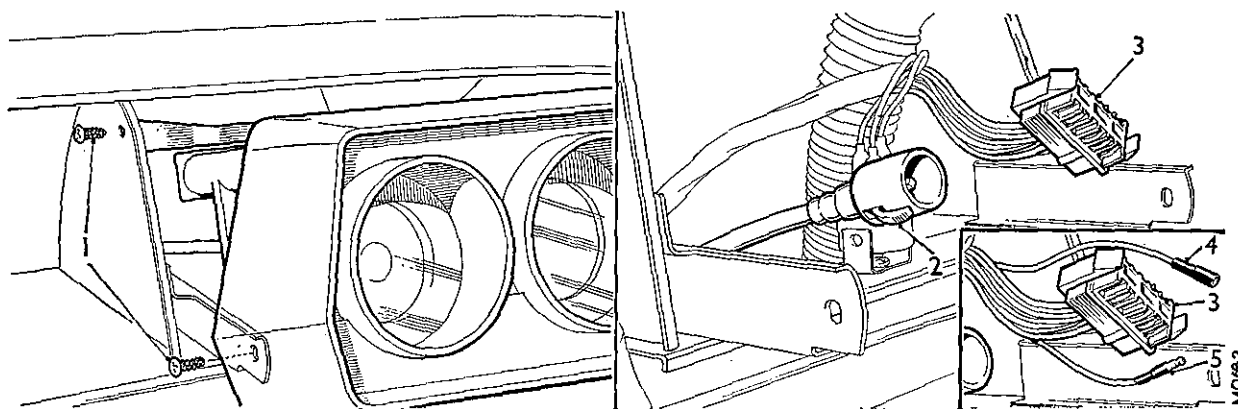

Fig. Nb.1
- (1) Disconnect the battery earth cable (NEGATIVE).
- (2) Remove the air ventilation louvre adjacent to the instrument panel (see Section Rb.4).
- (3) Release the portion of the door seal securing the fascia trim liner, withdraw the liner from behind the side of the panel and remove it.
- (4) Release the trim liner on the other side of the instrument panel in a similar manner but do not remove it; the instrument panel securing screws are now accessible (see Fig. Nb.1).
- (5) Remove the four securing screws (1) and partially withdraw the panel; press in the release lever (2) on the speedometer cable and pull the cable out of the instrument. Pull out the multi-plug wiring connector (3) from the rear of the panel and remove the assembly (see Fig. Nb.1).
1275 GT. In addition to the above instructions also disconnect the tachometer connections (4) and (5) (see Fig. Nb.1).
- (1) Remove the instrument panel (see Section Nb.1).
- (2) Press in the release lever (2) on the cable and pull the cable out of the instrument (see Fig. Nb.1). Withdraw the cable into the engine compartment.
- (3) From beneath the car, disconnect the cable through the aperture above the left-hand drive shaft. If the cable securing nut is too tight to turn by hand, use a suitable tool, or, remove the set screw securing the speedometer drive and withdraw the cable complete with the drive assembly and then remove the cable.